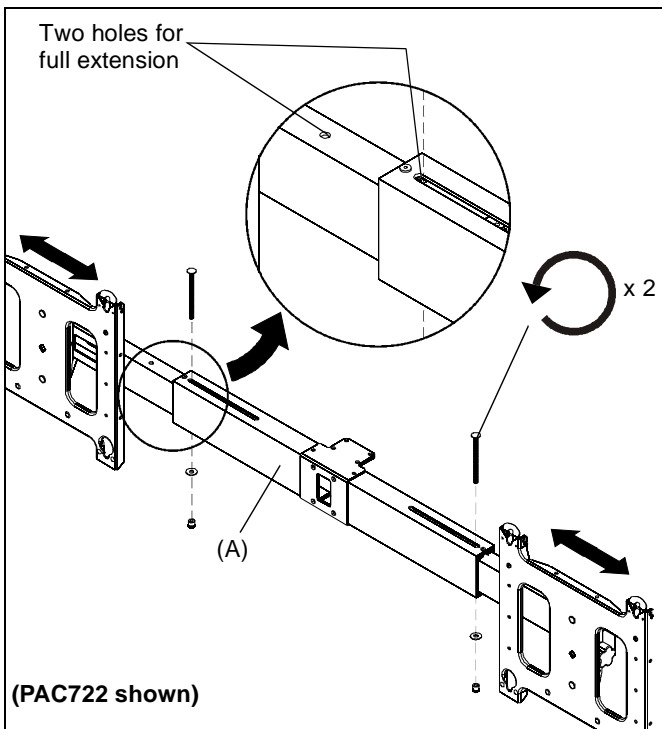

Figure 5
- Adjust extension assembly (A), as necessary, by removing the carriage bolt, allen nut and washer on each end of the extension assembly, so that distance between the center of the faceplate and center of the extension assembly matches dimension measured in Step 5. (See Figure 5)